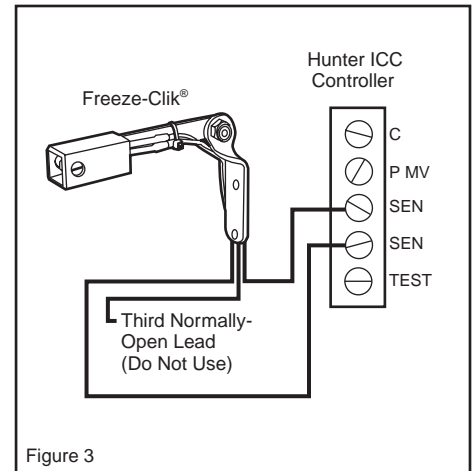

Figure 3
3. Connect one wire to the terminal labeled “SEN” and the other wire to the other “SEN” terminal (See Figure 3).